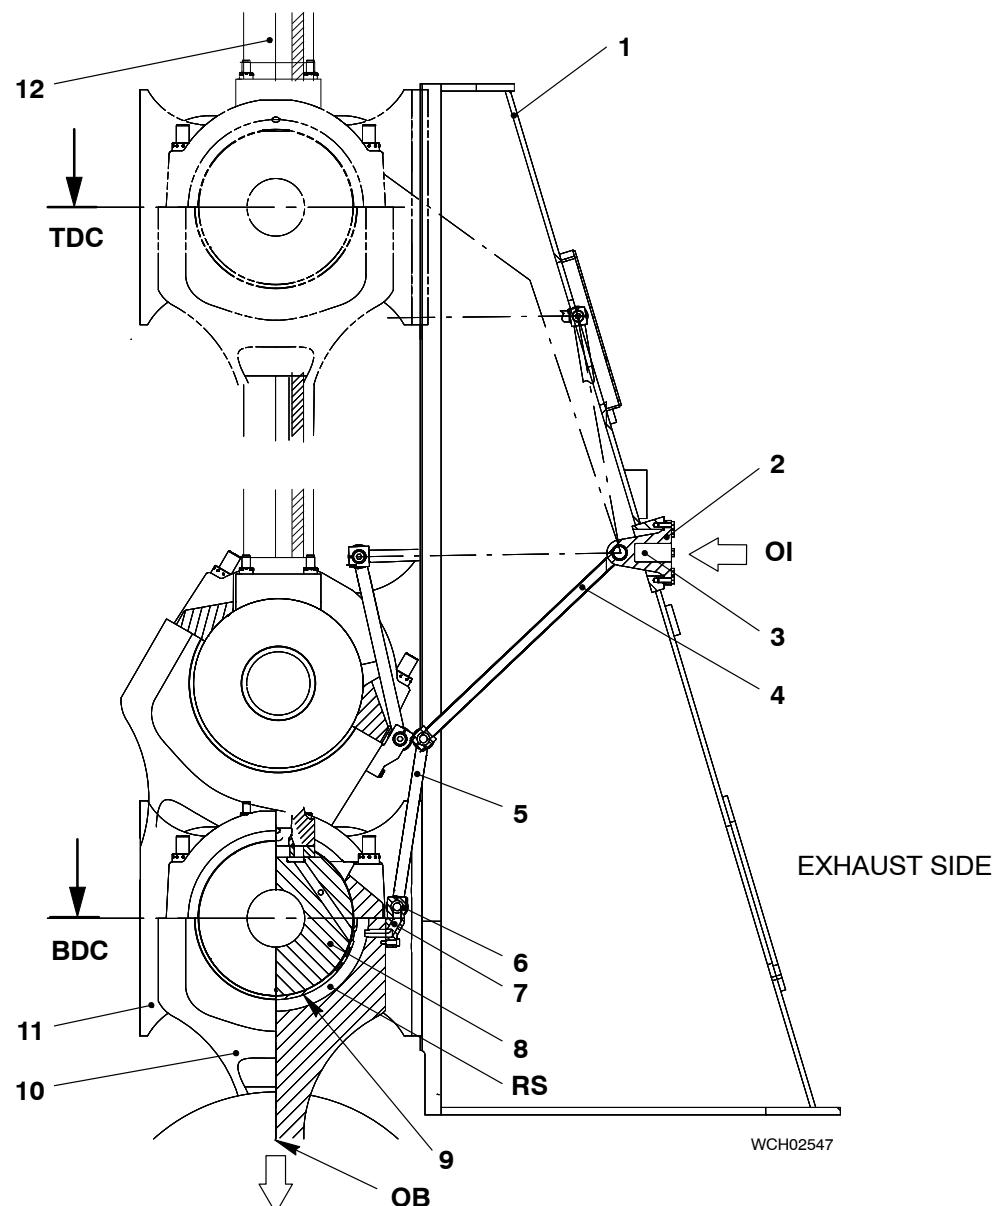

Fig. 1: Articulated Lever – Location
The crosshead lubricating oil flows from the oil inlet (OI, Fig. 1) through the support (2), the bottom lever (4) and the top lever (5) to the connection piece (6). The connection piece is attached to the connecting rod (10). The oil enters the ring space (RS) through the bore (7). The crosshead pin (8) is lubricated through bores in the top end bearing shell (9). The oil flows through the bore (OB) through the connecting rod (10) to the bottom end bearing.
Key to Fig. 1 Articulated Lever – Location